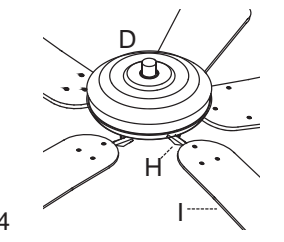

Fig. 4
4. Insert remaining motor screws (K) with lock washers (N). [Fig. 4] Tighten all motor screws (K) securely.